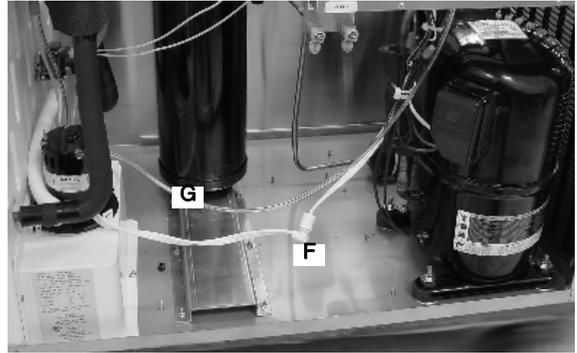

Figure 11.
8. Disconnect the Water Pump plug (F) and Transducer Pressure Hose (G) (FIGURE 11).